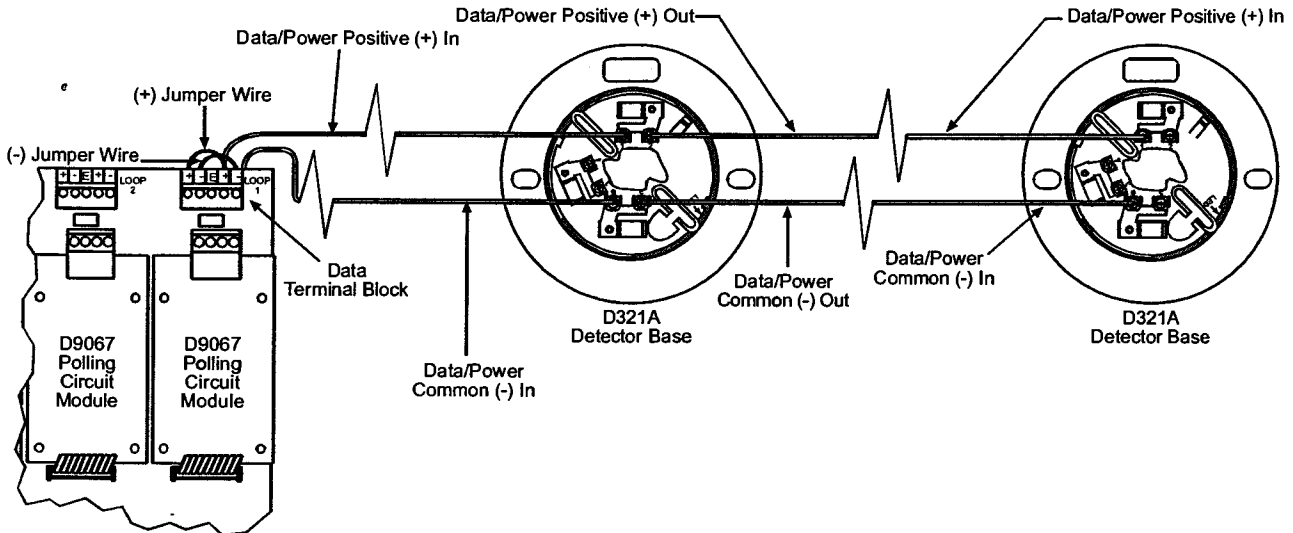

Figure 4: Class B, Style 4 Circuit Connections
- 3) Connect the (+) and (-) terminals of the data terminal block with jumper wires. See Figure 4.